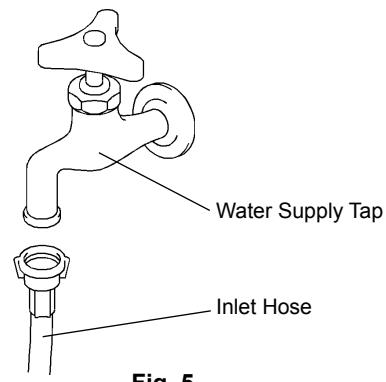

Fig. 5
- 2) Attach the other end of inlet hose to the water tap (Fig. 5), noting washer is correctly positioned before hand tightening as above. It is a wise precaution to have a stop valve within easy reach.
2) Attach the other end of inlet hose to the water tap (Fig. 5), noting washer is correctly positioned before hand tightening as above.